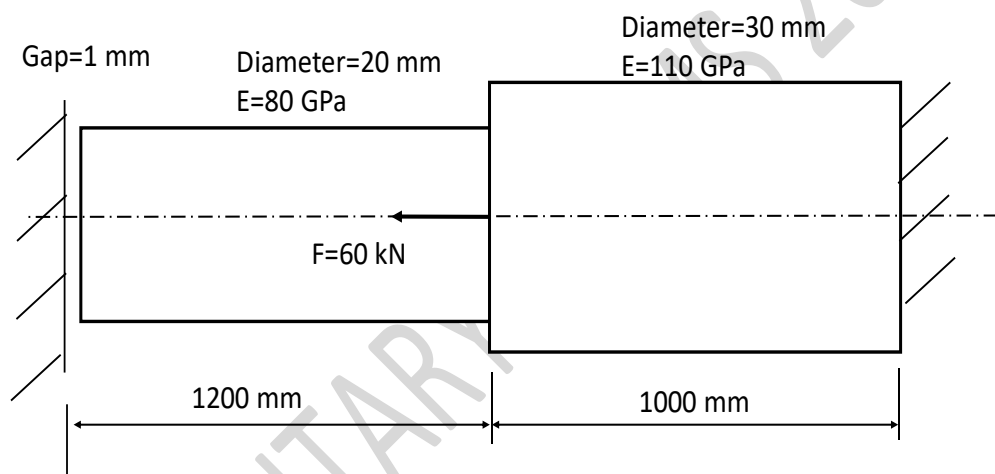

Fig. 3a
- 3 a) For the stepped bar shown in Fig. 3a, determine the strains and stress in the elements. Also estimate the reaction forces.